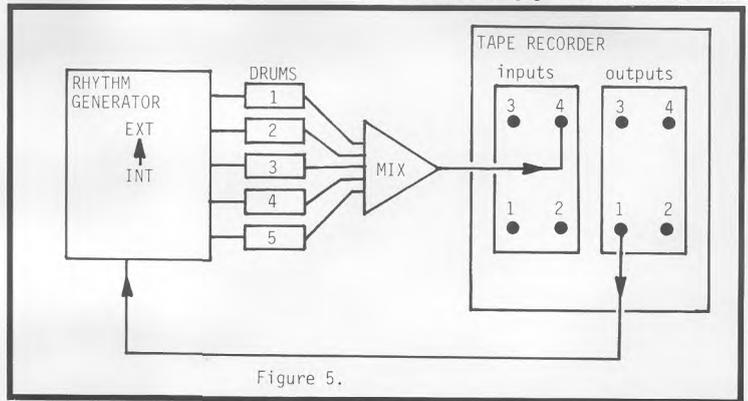

Figure 5.
4. This time we are going to record on track 4, so be sure to leave track 3 alone (see figure 5). Flip S9 to EXTERNAL mode, put S10 in the HOLD mode, and toggle S11 from RUN to RESET back to RUN again.